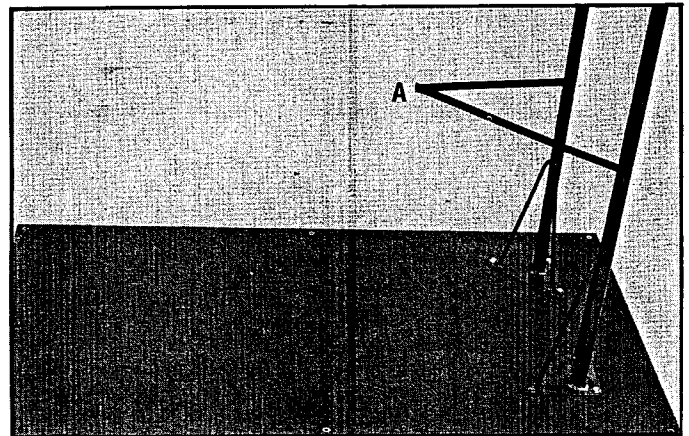

Fig. 20
1. Lay the table upside down on a bench or the floor, as shown in Fig. 20
2. Assemble the two legs (A) to the table, as shown in Fig. 20, using six #14 x 3/4" washer face screws supplied. NOTE: overtightening of all screws in particle board may cause them to strip.